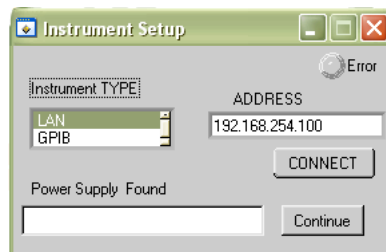

FIGURE 2-3. CVI DRIVER START-UP
6. At the Start-up screen (Figure 2-3), select **LAN**, then enter the IP Address noted in step 3 into the **ADDRESS** field and click **CONNECT**. Upon successful initialization the initialization window closes and the **Power Supply Found** field of the Start-up window (Figure 2-3) shows BIT 802E. Click **Continue**.